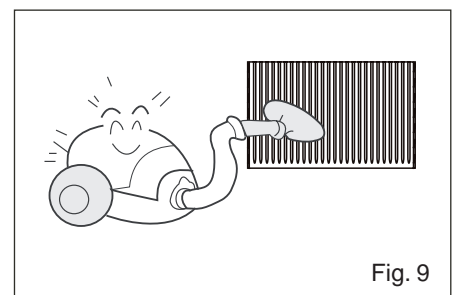

Fig. 9
- 6) Wash the grille under low pressure running water (Fig. 9).
- 2) First clean the air outlet grille's inside part - that is the side which is normally addressed towards the Unit's body - by using a vacuum cleaner adjusted to the suitable suction capacity, as it is shown in Fig. 9.